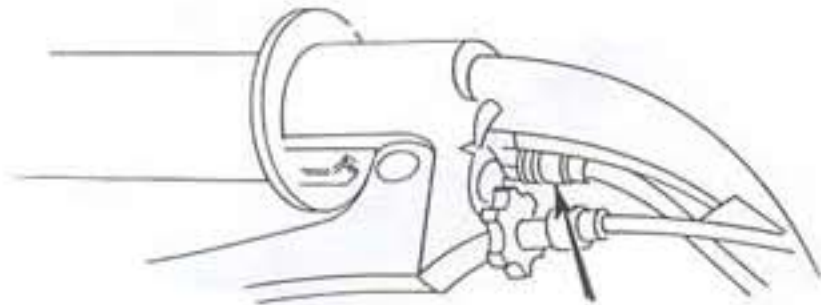

Fig. 5
- Adjust the cable tension at the decompressor adjuster on the twist grip (a small amount of free movement is required and should not exceed  $\frac{1}{4}$ ", fig. 5).